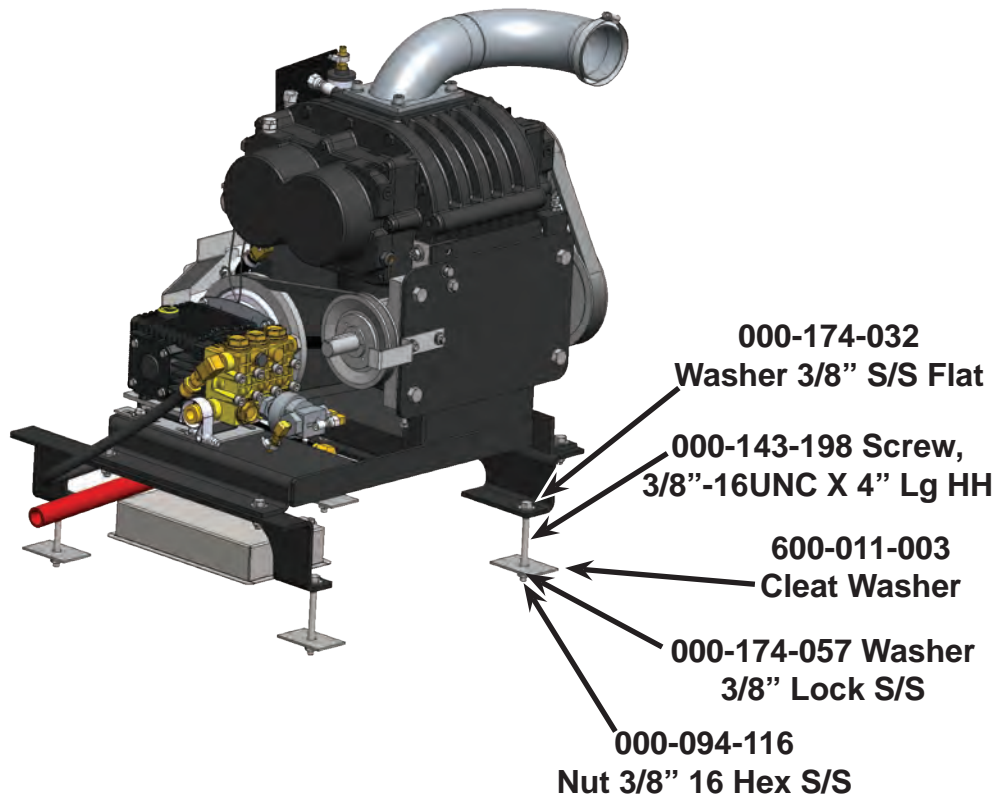

Figure 43. Secure Power Pack to Van Floor with Fastening Hardware
8. Bolt the Power Pack down with the provided hardware (see Figure 43).